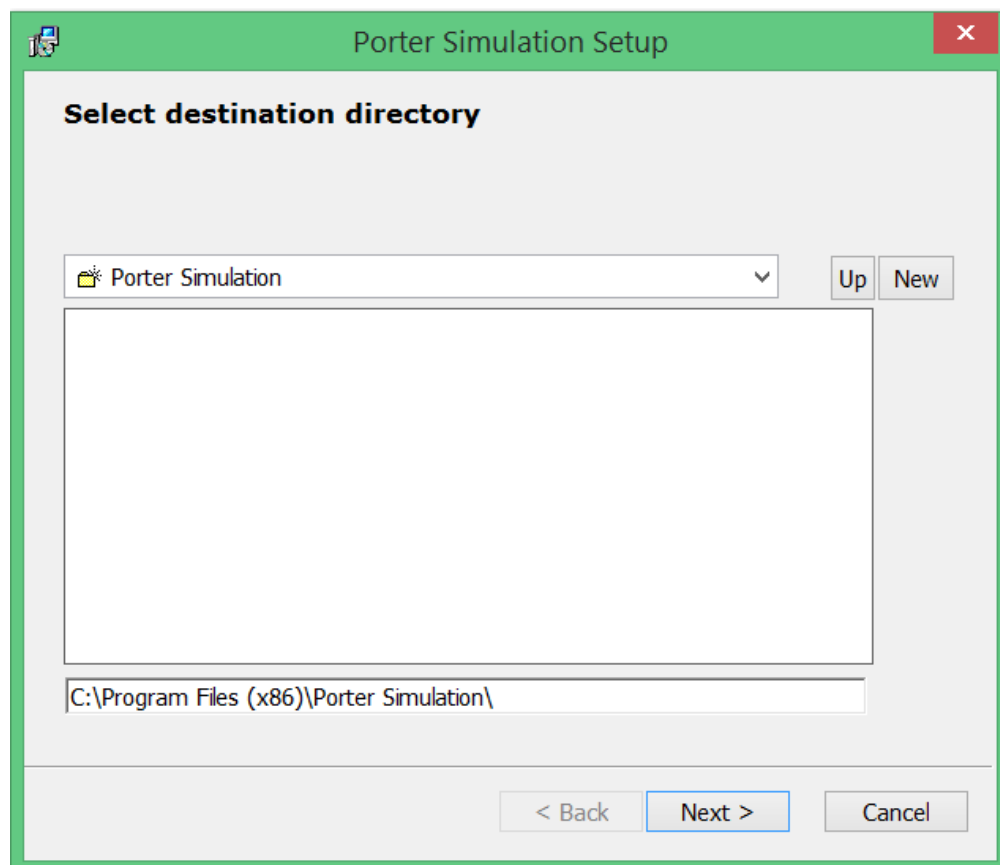

Figure 2.1: Pick a directory
- (a) Figure 2.1: Installer.png